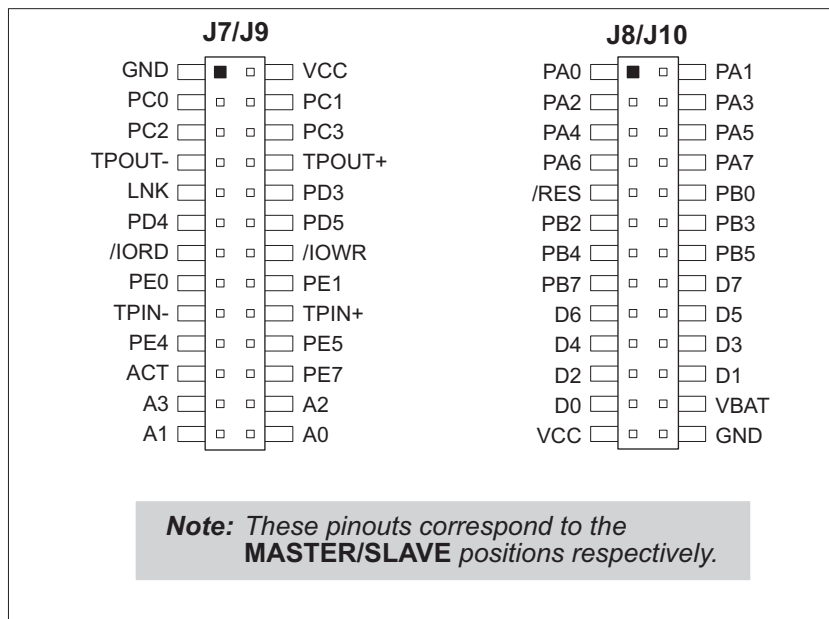

Figure B-5. RCM2200 Prototyping Board Pinout (Top View)
- **Module Extension Headers**—The complete pin sets of both the Master and Slave RabbitCore modules are duplicated at these two sets of headers. Developers can solder wires directly into the appropriate holes, or, for more flexible development, 26-pin header strips can be soldered into place. See Figure B-5 for the header pinouts.
circuits can be prototyped using point-to-point wiring with 20 to 30 AWG wire between the prototyping area and the holes at locations J7 and J8. The holes are spaced at 0.1" (2.5 mm), and 40-pin headers or sockets may be installed at J7 and J8. The pinouts for locations J7 and J8, which correspond to headers J1 and J2, are shown in Figure B-5.